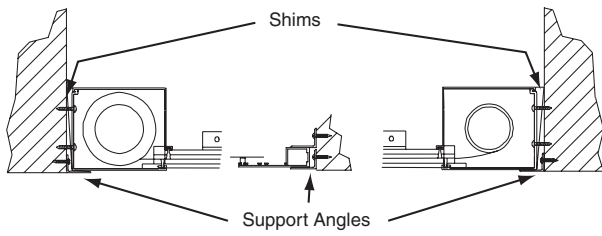

Figure 6
- ⑤ **For Inside Mount**—Place the assembled skylight frame onto the perimeter angles. NOTE: You may have to take the unit apart and reassemble it in the opening. Center the skylight frame in the opening and temporarily place shims (see Fig. 6). Once the frame is in place, measure the diagonals to make sure the unit is square. Adjust frame and re-shim until it is square, then install screws through endcaps to hold them in position.